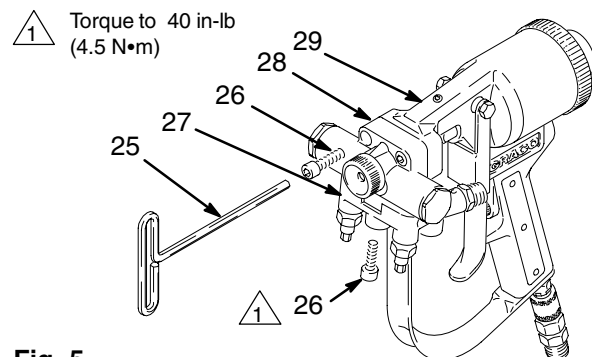

Fig. 5
1. Use the 3/16" wrench (25) to remove one cap-screw (26) from the fluid manifold (27) and two capscrews (26) from the nozzle housing (28). See Fig. 5.
2. Trigger the gun, and then pull the nozzle housing (28) straight off the gun body (29). See Fig. 5.
11. Use the 3/16" wrench (25) to install the two top capscrews (26) firmly into the nozzle housing. Torque to 40 in-lb (4.5 N•m). See Fig. 5, page 10.